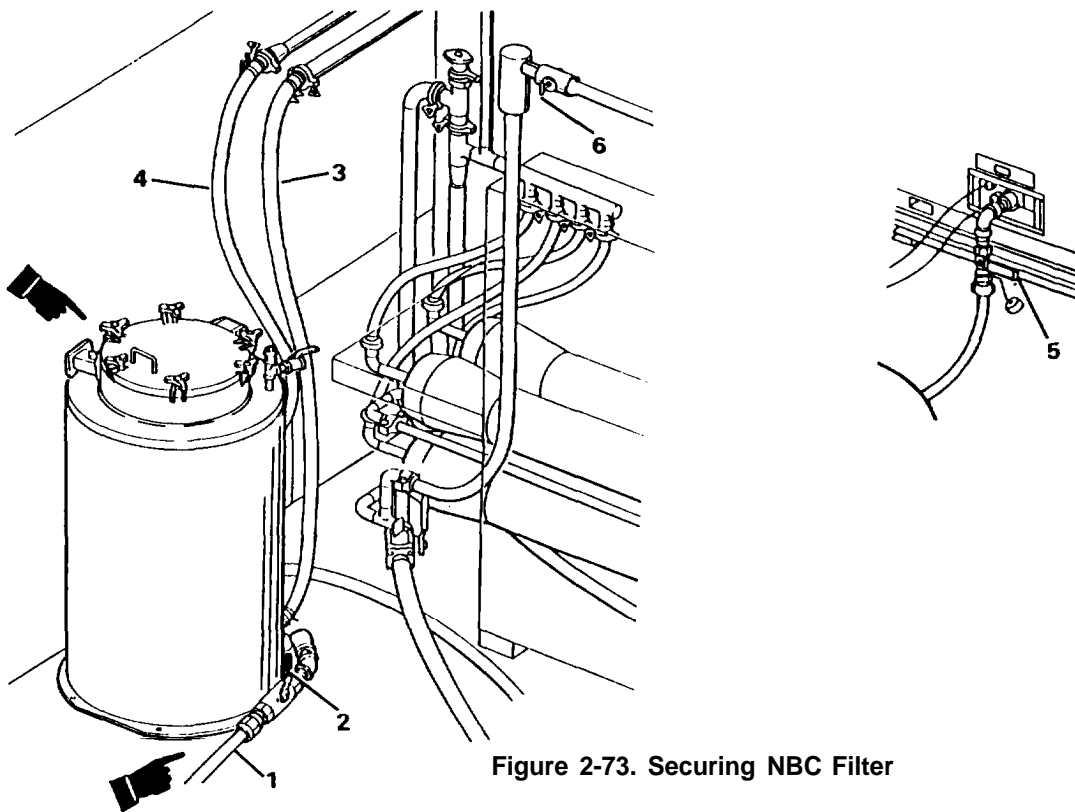

Figure 2-73. Securing NBC Filter
(1) Remove the NBC filter media (Figure 2-73).